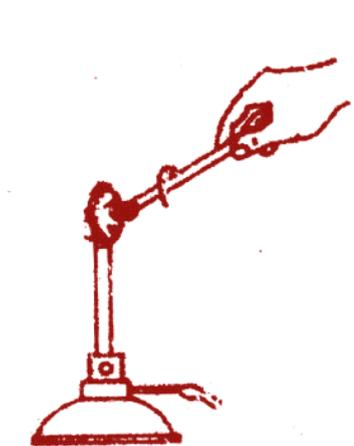

Fig. 5.1 : *Sealing of Capillary tube*
- 1) Take a glass capillary tube of about 5-6 cm in length and seal one end of it. This is done by heating tip of tube with the side of the flame of the Bunsen burner. The end of the capillary tube melts and seals itself. It is indicated by the formation of a small glass bead at tip. Fig. 5.1